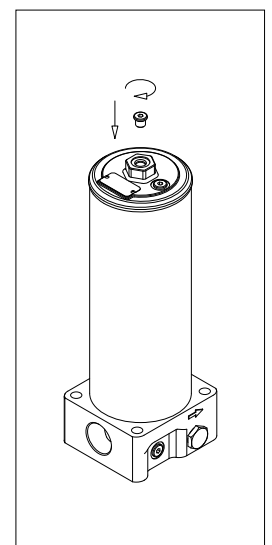

fig. 12
- (Fig. 12) Continue the operation until leakage from the CLEAN SIDE, then screw the breather plug in